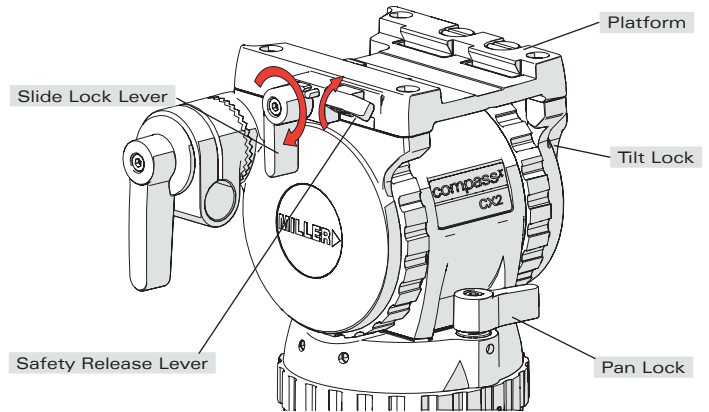

Fig. 3a
- 2.1 Remove the CAMERA PLATE by lifting the SAFETY RELEASE LEVER on the PLATFORM (SLIDE LOCK LEVER must be unwound (clockwise)) (Fig. 3a).